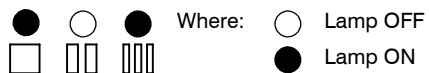

Fig. 8.4
- 12 Press the reset button 7 repeatedly (4 times) until the lamps 10 give the indication as in Fig. 8.4 (gas type mode).